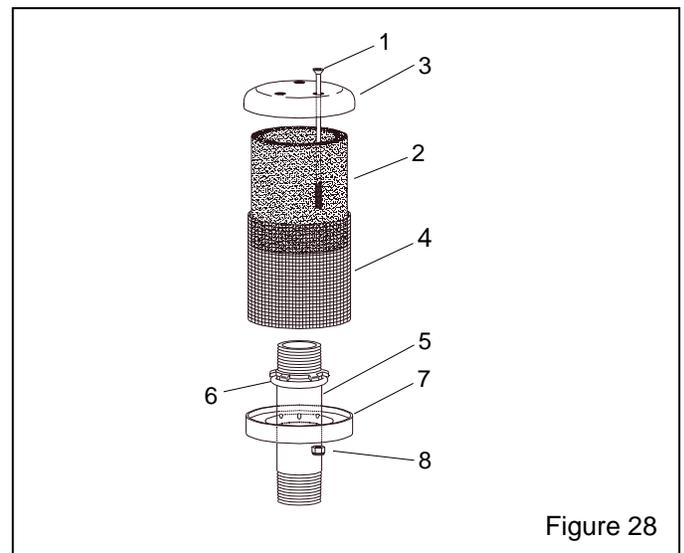

Figure 28
**8.4 Exhaust Muffler - Figure 28**